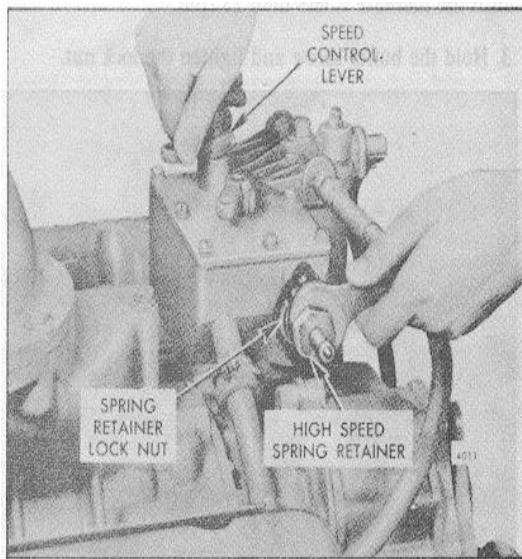

Fig. 6. Adjusting Maximum No-Load Engine Speed
2. With the engine at operating temperature and no-load on the engine, place the speed control lever in the maximum speed position. Turn the high-speed spring retainer in (Fig. 6) until the engine is operating at the recommended no-load speed. Use an accurate hand tachometer to determine the engine speed. The maximum no-load speed varies with the full-load operating speed.